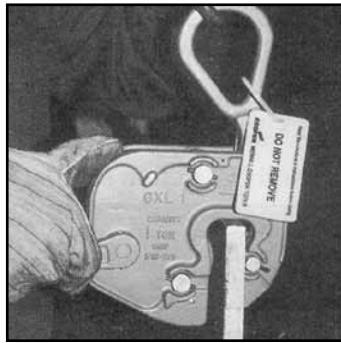

Figure 28
- B. Move lever to “lever closed” position while pushing the clamp down to ensure the plate is inserted to the full depth of the throat (Fig. 28 and 29). The cam is forced against the plate and you are now ready to lift the plate.
- B. Push the clamp onto the plate until the plate touches the back of the clamp’s throat and move lever to “lever closed” position (Fig. 28).